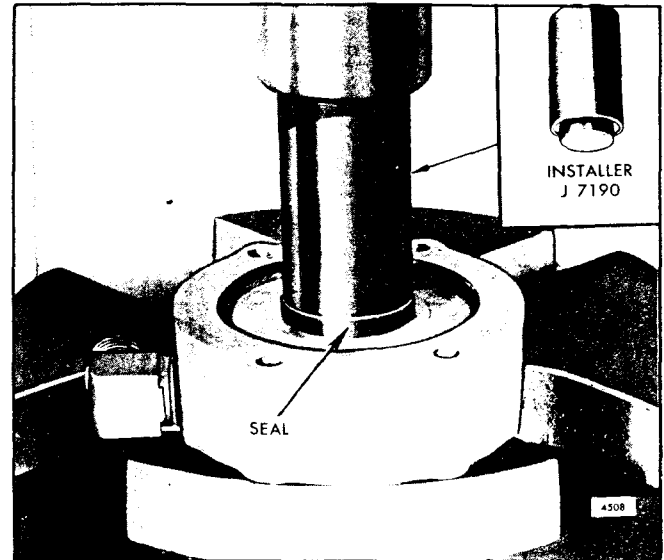

Fig. 7 - Installing Hydrostarter Shaft Seal in Valve Plate
2. If the shaft oil seal was removed, install a new seal in the valve plate with the lip of the seal facing in, using installer J 7190 (Fig. 7). The seal is properly positioned when the installer bottoms in the valve plate. Install the oil seal retaining ring in the ring groove in the valve plate.